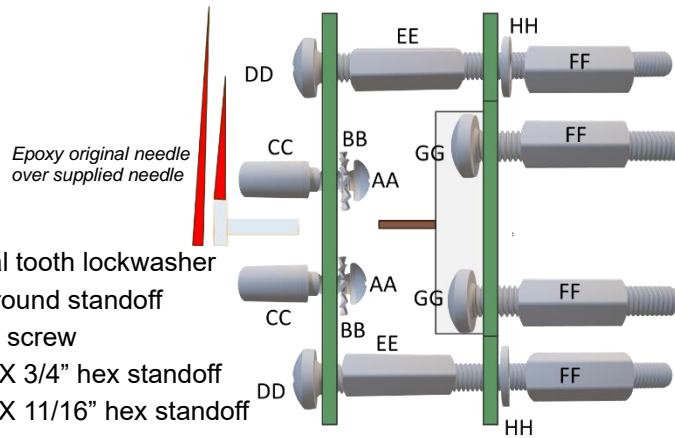

Figure 1a Top View
- Assemble Dial Plate Adapter, Main Circuit Board and all screws, washers and standoffs as shown in Figure 1a and 1b.